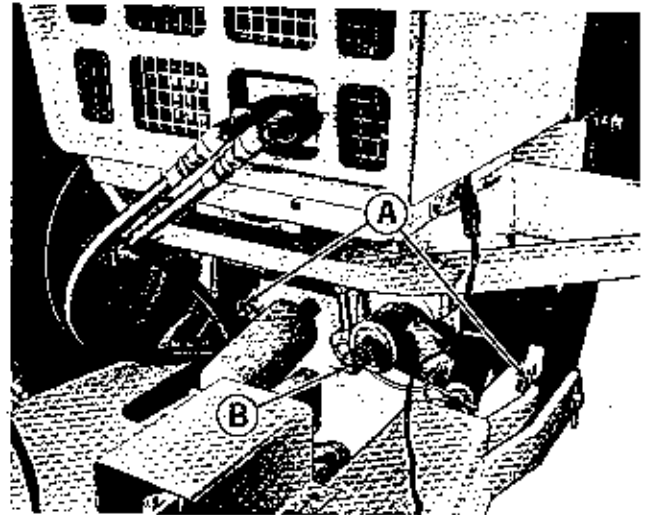

Figure 6. Snow thrower mounted to tractor.
8. See figure 6. Drive the tractor forward toward the snow thrower until the mounting holes in the snow thrower hitch
10. See figure 6. Wipe spline shaft (B) clean and coat it with grease or a few drops of oil.
7. See figure 6. Remove two spring clips and mounting pins at (A) to disconnect the snow thrower from the hitch assembly.